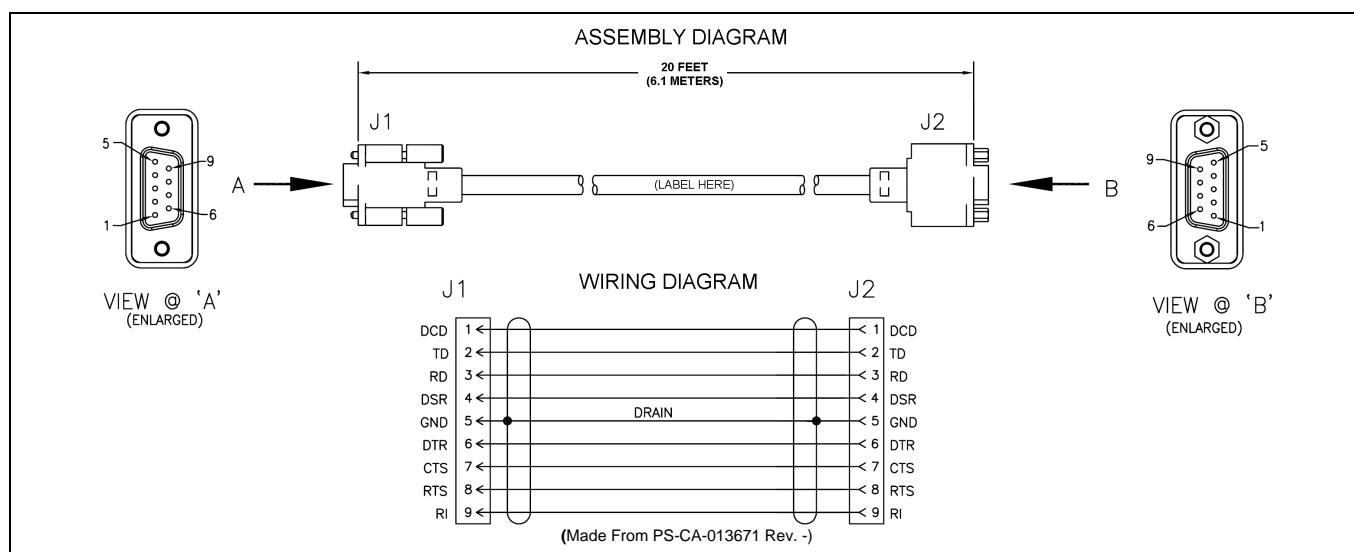

Figure 11-5: Serial Data Cable CA-013671-020
Serial Data Cable CA-013671-020 (20 feet long) can be used make data connections to the radio to support data communications equipment such as an MDT or a GPS NMEA-format device. It can also be used to program and configure the M7300 mobile radio via a Personal Computer (PC). The cable's assembly and wiring diagrams are shown in Figure 11-5 below.